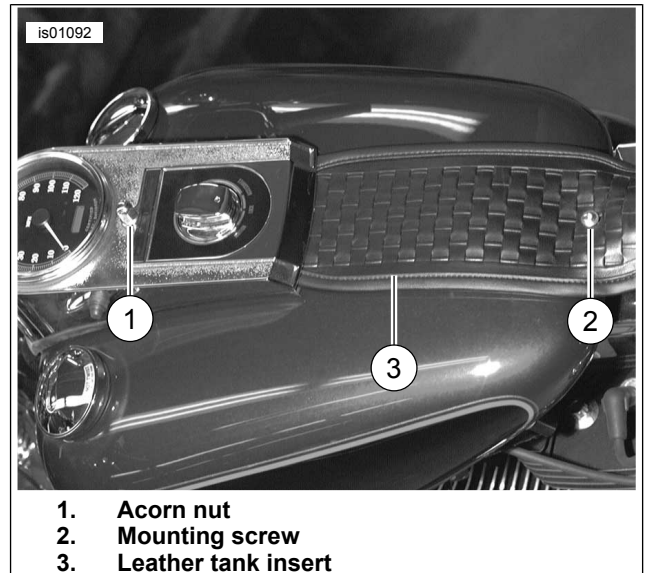
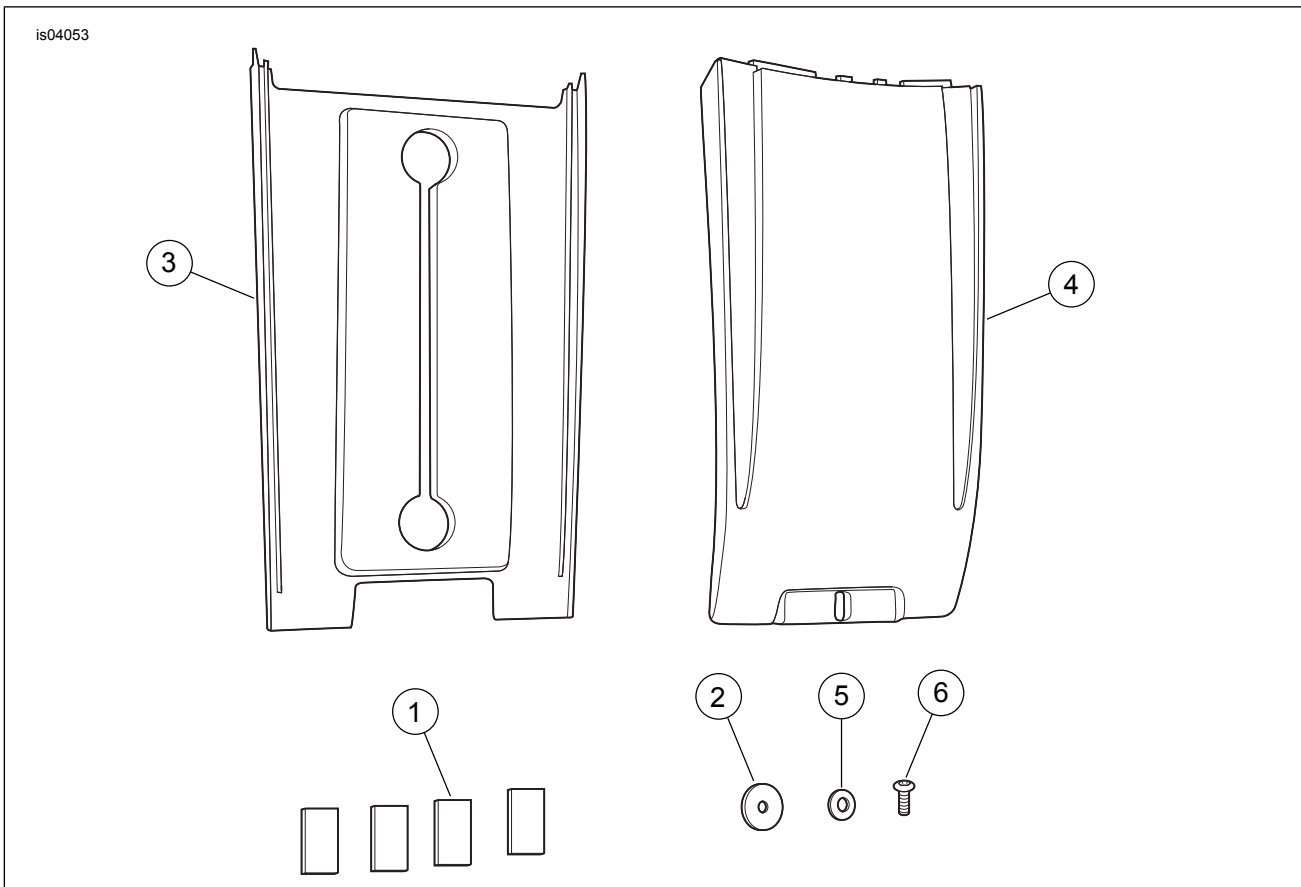

Figure 1. Remove Existing Mounting Hardware
Figure 5. Service Parts: Softail Dash Panel Extension Kit
See Figure 5 and Table 1.
2. See Figure 1. Loosen the acorn nut (1) on the instrument panel only enough to allow some room under the panel.
3. At rear of fuel tank, remove the insert mounting screw (2) and washer securing the leather tank insert (3).
4. See Figure 5. Obtain panel extension (4), four foam pads (1) and extension panel gasket (3) from kit. Place extension panel on gasket making sure panel is centered and fits cleanly into lips on both sides.
6. See Figure 5. Obtain screw (6), flat black nylon washer (2) and black rubber washer (5) from kit. Place black rubber washer (5) between the dash panel extension and the fuel tank, aligned with the screw hole. Loosely install the mounting screw and black nylon washer (2) to secure the lower portion of the dash panel extension.
7. See Figure 5. Observe the overall fitment of panels over tank and determine whether foam pads (1) will be necessary to achieve the desired alignment.